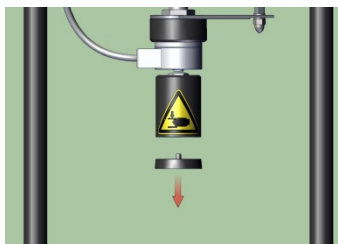
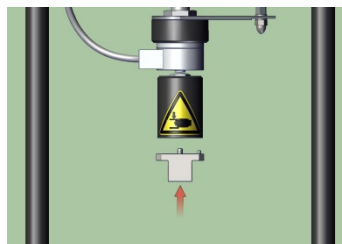
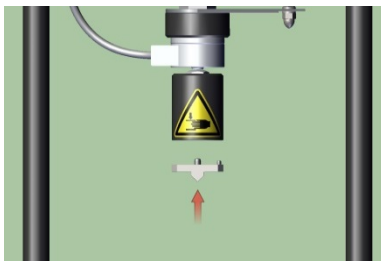

Figure 6.2.4
Figure 6.2.5
Figure 6.2.8
1. Remove the Compression Insert (Figure 8.1, Item 4) (if applicable) from the Piston (Figure 8.1, Item 3) (see Figure 6.2.4), and align the two pins of the Twin-Transverse Shear Attachment Shear Unit (Figure 8.1, Item 11) in its place (see Figure 6.2.5).
2. Remove the Compression Insert (Figure 8.1, Item 4) (if applicable) from the Piston (Figure 8.1, Item 3) (see Figure 6.2.4), and align the two pins of the Transverse Strength Attachment Cutter (Figure 8.1, Item 10) in its place (see Figure 6.2.8).
1. Remove the Compression Insert (Figure 8.1, Item 4) (if applicable) from the Piston (Figure 8.1, Item 3) (see Figure 6.2.4).